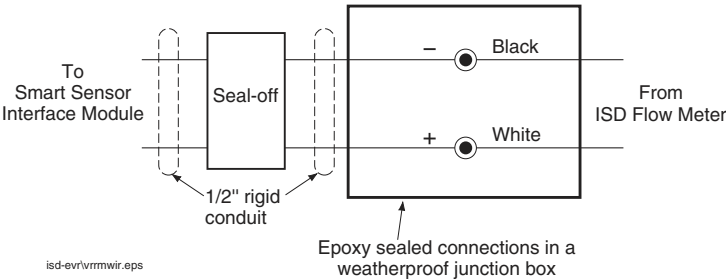

Figure 2. Field wiring Vapor Flow Meter - Observe Polarity
14. Connect the wires from the Vapor Flow Meter to the field wiring from the console and cap with wire nuts (see Figure 2).
11. Route the wiring into the junction box via the supplied cord grip assembly. Connect the wires from the Vapor Flow Meter to the field wiring from the console and cap with wire nuts (see Figure 2).